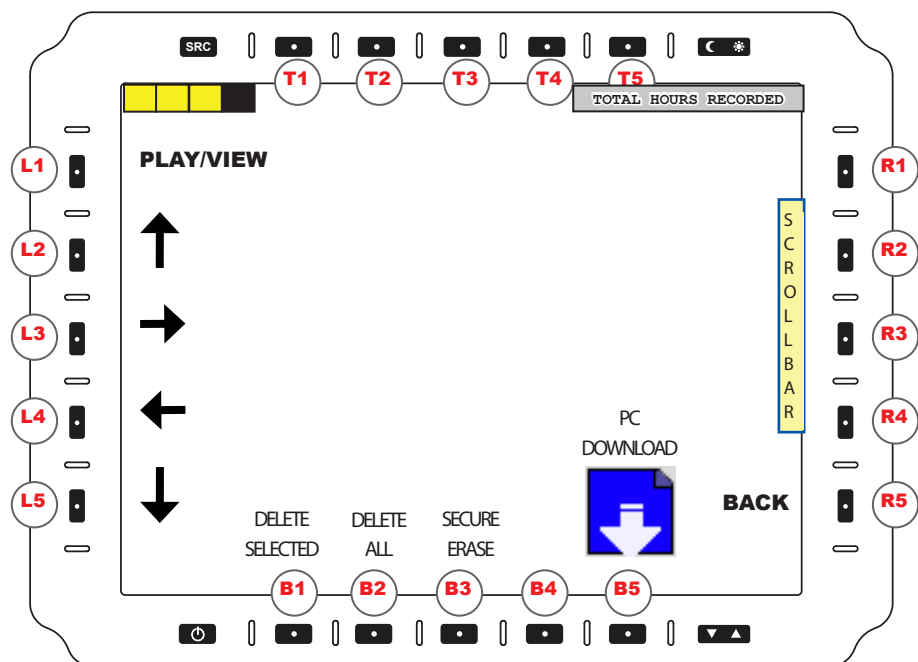
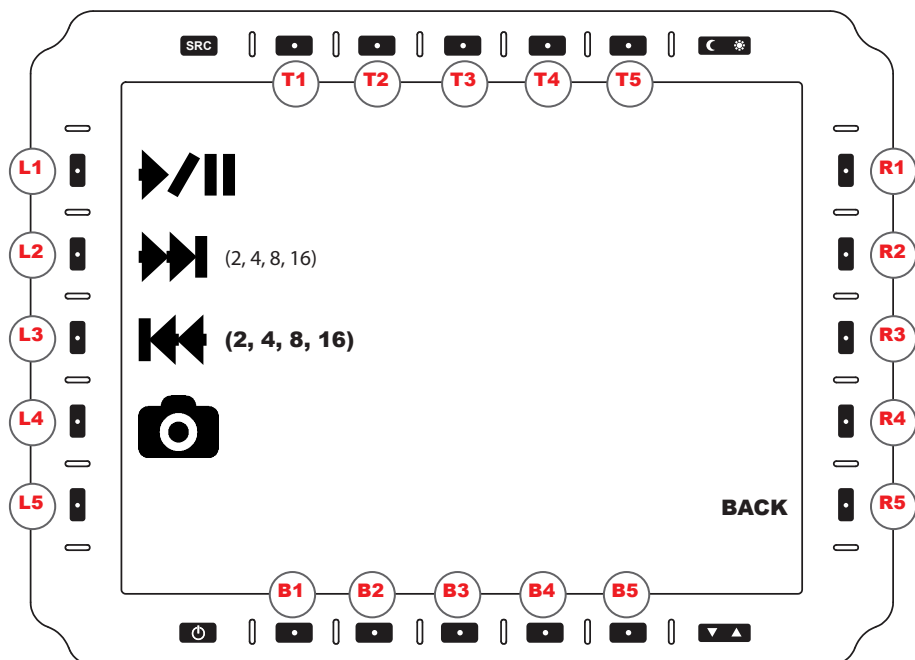
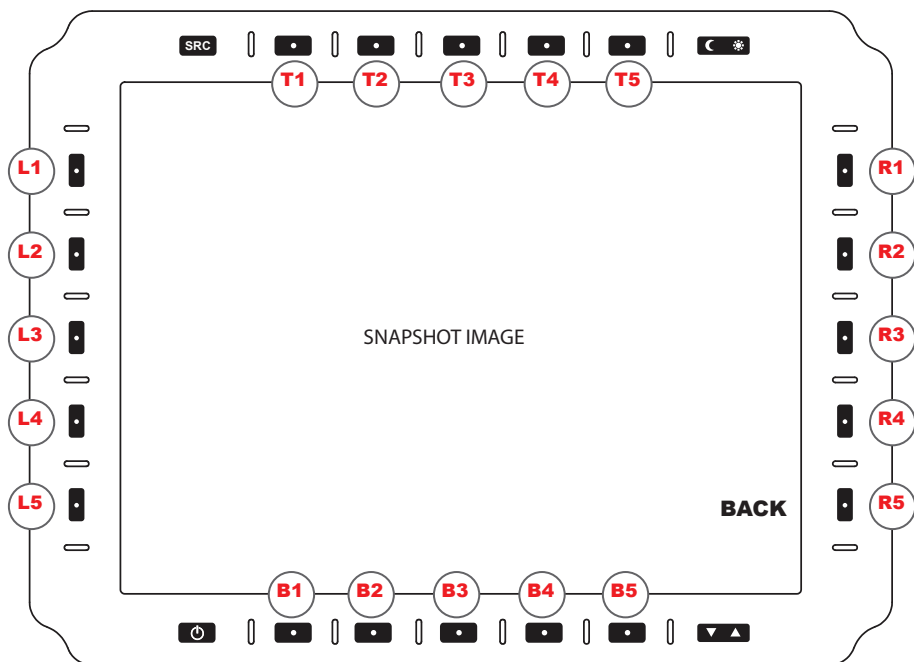

Figure 13. MEDIA MENU
Figure 19. VIDEO PLAYBACK MENU
Figure 20. SNAPSHOT VIEWER MENU
MEDIA. Opens Media Menu, Figure 13.
MEDIA (L2). Access to the Media Gallery (Figure 13), a thumbnail grid of recorded Video and Snapshot files.
The Media Menu provides access to the Media Gallery (Figure 13). The chronological-stored (oldest file first) Video (mp4) and Snapshot (jpg) files are viewed in a 4 x 3 thumbnail grid. Files are named with a Time/Date stamp indicating Video recording start time or Snapshot record time. The most recent recording defaults to last position in grid.
VIEW (L1). Displayed if image is selected, then shows selected file. This takes User to submenu Snapshot Viewer (see Figure 19).
YES (R4). Confirm Delete Action (Delete Selected, Delete All, or Secure Erase. For more on the Secure Erase process, see Secure Erase Menu (Figure 13).
- Power ON Display; go to Media Menu (Figure 13); Select PC Download Key (B5)
- Access SE, B3 key, from the Media Menu (Figure 13)
- Select NO (R5) to Abort Secure Erase; Screen returns to Media Menu (Figure 13).
Access the submenu Video Playback (Figure 19) by selecting key L1 Play/View from the Media Menu (Figure 13). This menu allows User to review previously recorded Videos. Select Video to play from Media Gallery (Figure 13).
SNAPSHOT (L4). Press to take a Snapshot of Video Playback frame from the saved Video in play; Snapshot is saved to Media Gallery (Figure 13) with current Time/Date stamp. After Snapshot is taken, screen returns to Video in play.
The submenu Snapshot Viewer screen (Figure 20) appears when accessed through the Snapshot Key (R5) in the Media Menu (Figure 13). This menu screen allows the User to view the Snapshot image.